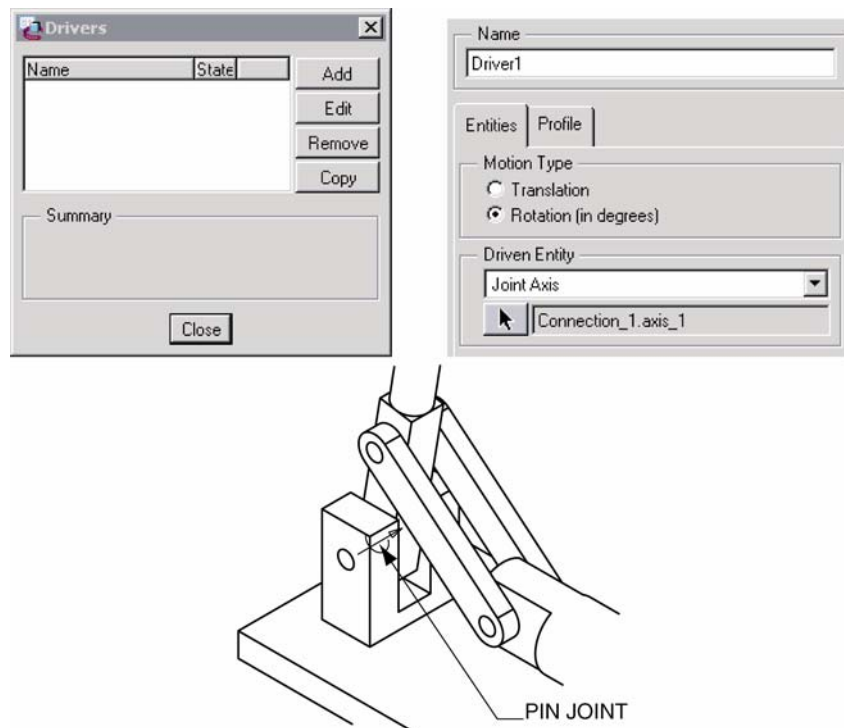

Figure 12-104: Driver Creation
Step 2: On the Drivers dialog box, select the ADD option (Figure 12-104).
- Step 3:**  For the Driven Entity, select the pick icon, then on the work screen pick the pin joint shown in Figure 12-104.
- Step 4:** If available, on the Driver Editor dialog box, select ROTATION as the Motion Type (Figure 12-104).